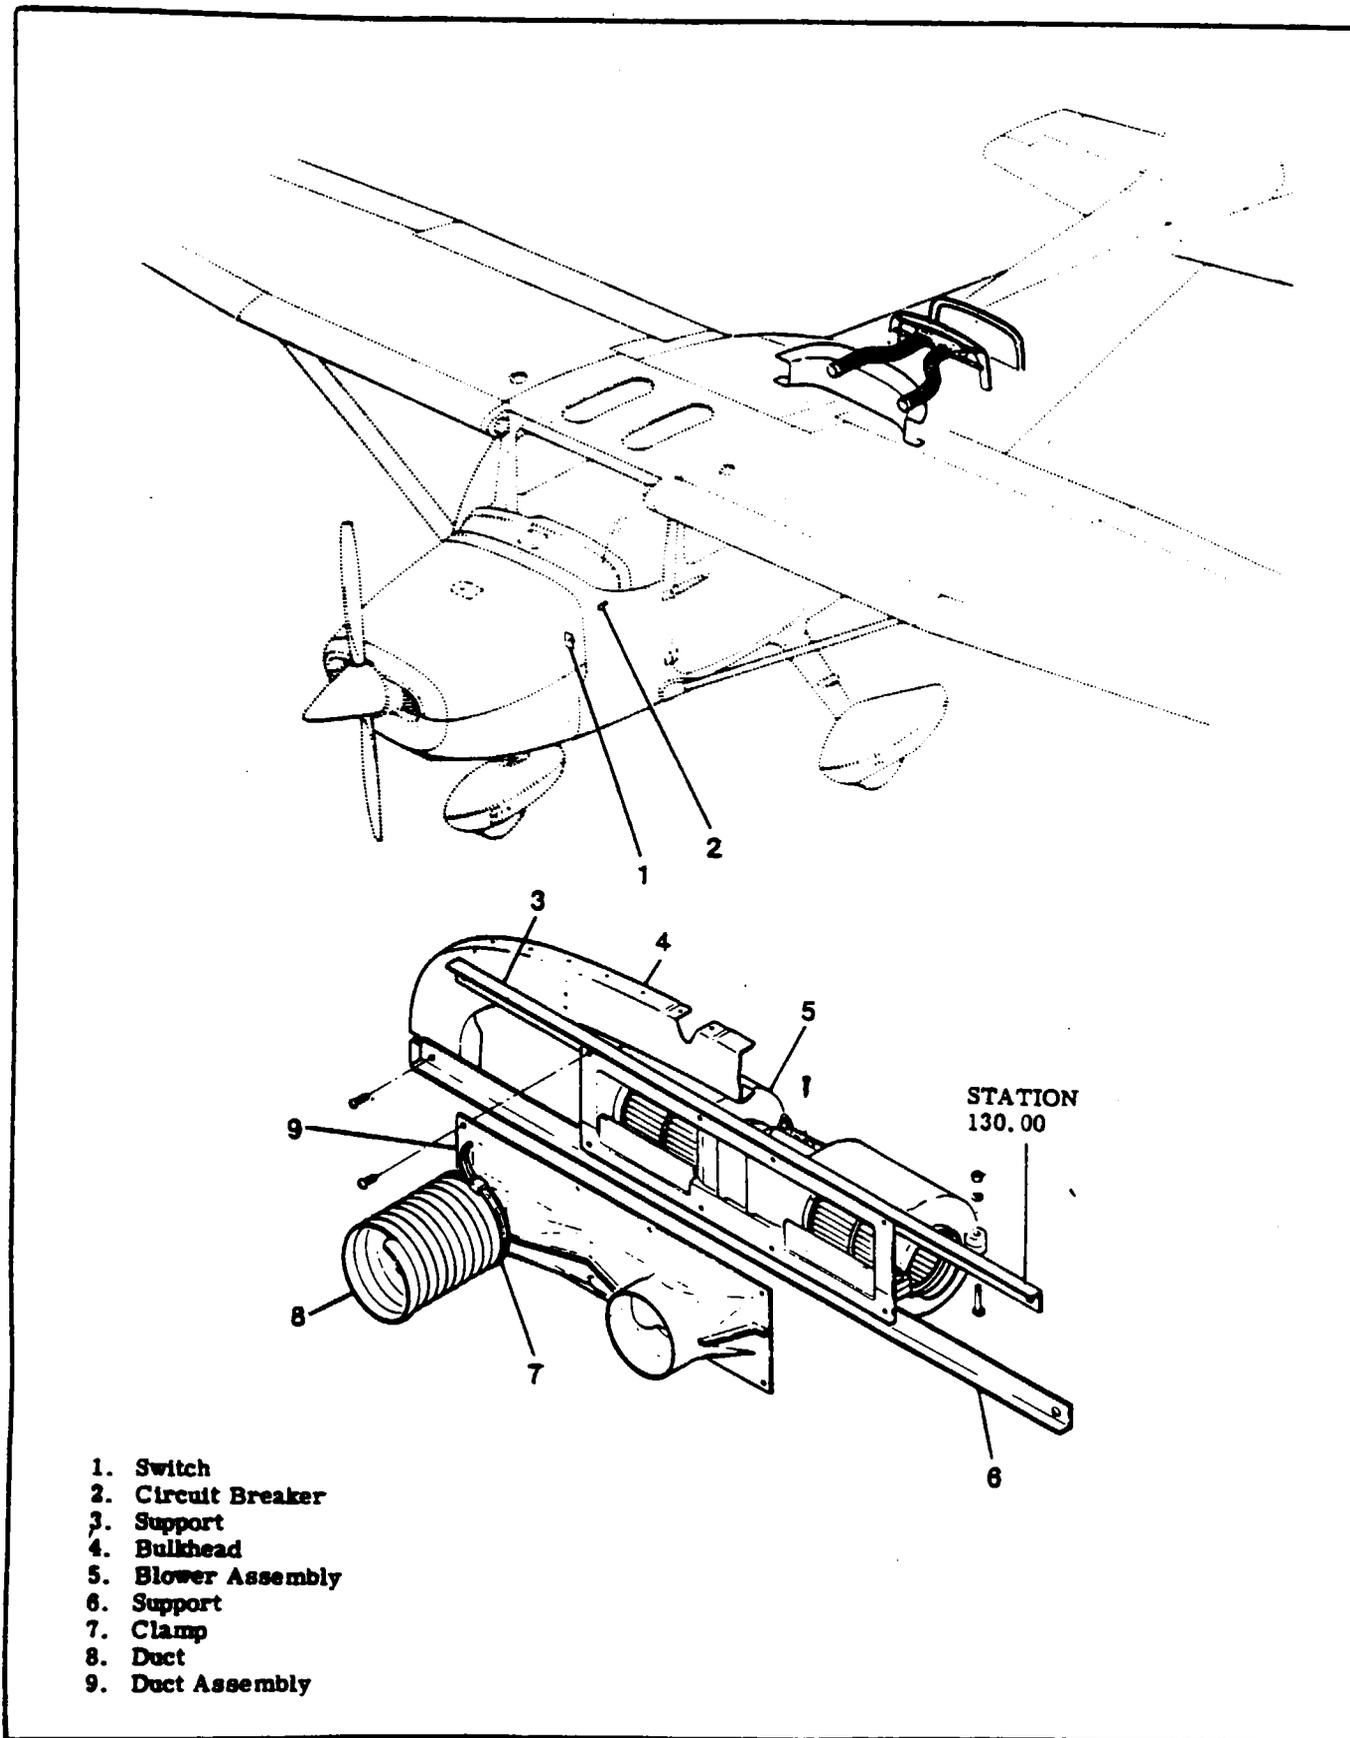

Figure 14-3. Circulating Fan Installation
- 14-17. **AIR CIRCULATION FAN SYSTEM.** (See figure 14-3.)
- 14-19. **REMOVAL.** (See figure 14-3.) Access to the blower assembly and ducting is gained through the baggage door.
- b. Disconnect forward and aft ends of hoses (8) by removing hose clamps.
- c. Remove 8 screws attaching blower assembly (5) and duct assembly (9) to supports (3) and (6).
- d. Remove lower support (6).
- 14-21. **INSTALLATION.** (See figure 14-3.)
- a. Install blower unit (5) and duct assembly (9) to upper support (3).
- c. Install lower support (6), and attach blower assembly and duct (9).